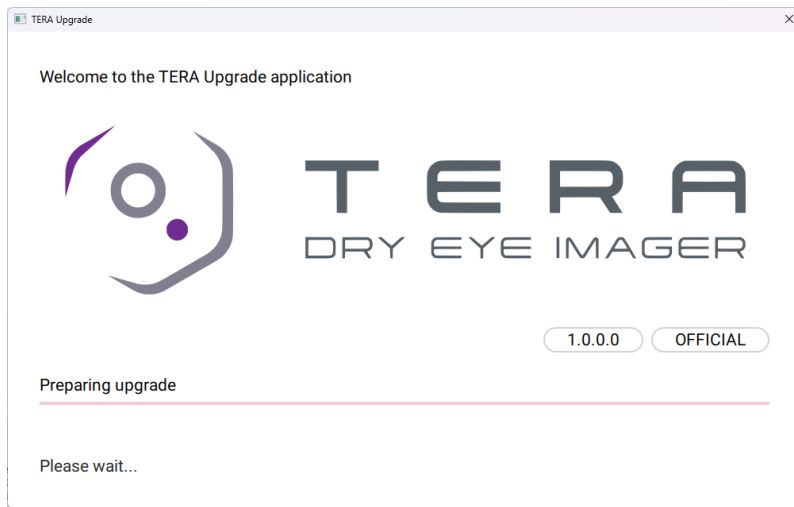

Figure 15.11: Upgrade progress
10. After tap on **Apply** button, the upgrade procedure starts. The device is rebooted and the upgrade progression is shown, see Figure 15.11.